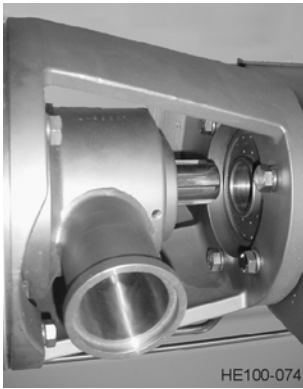

Figure 34 - Align Shaft Splines with Gear Reducer
8. Push the spline of the shaft partially into the gear reducer. The shaft may need to be rotated slightly for the splines to seat in the gear reducer. See Figure 34.